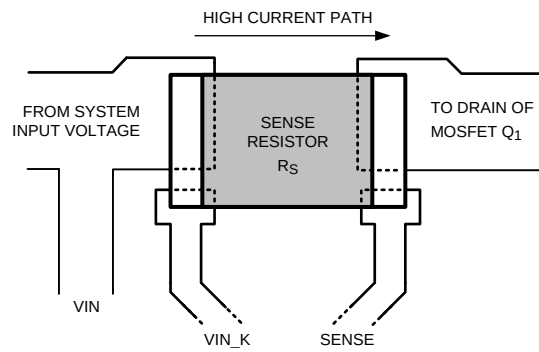

Figure 50. Sense Resistor Connections
5. The sense resistor (R_{SNS}) should be placed close to the LM5066. A trace should connect the VIN pad and Q_1 pad of the sense resistor to VIN_K and SENSE pins, respectively. Connect R_{SNS} using the Kelvin techniques as shown in Figure 50.
9. The board's edge connector can be designed such that the LM5066 detects through the UVLO/EN pin that the board is being removed, and responds by turning off the load before the supply voltage is disconnected. For example, in Figure 50, the voltage at the UVLO/EN pin goes to ground before V_{IN} is removed from the LM5066 as a result of the shorter edge connector pin. When the board is inserted into the edge connector, the system voltage is applied to the LM5066's VIN pin before the UVLO voltage is taken high, thereby allowing the LM5066 to turn on the output in a controlled fashion.